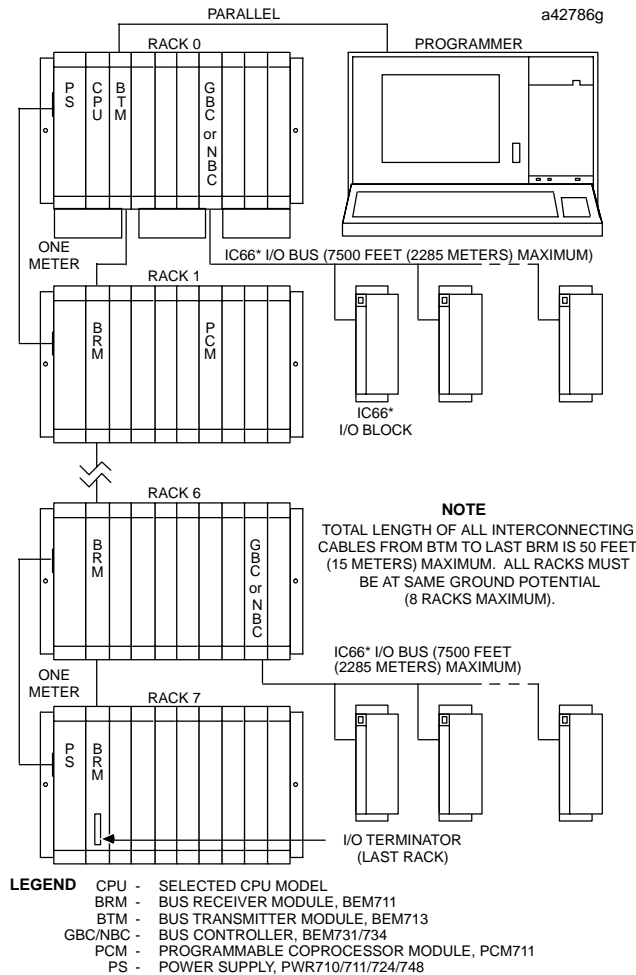

Figure 1. Typical Programmable Controller System Configuration
- Install the CPM 925 module in slot 1 of rack 0 (see Figure 1).
For a parallel interface (MS-DOS programmer only) the programmer is connected to the top port on the Bus Transmitter Module (IC697BEM713) as shown in Figure 1. See Reference 1 for a description of programming functions.